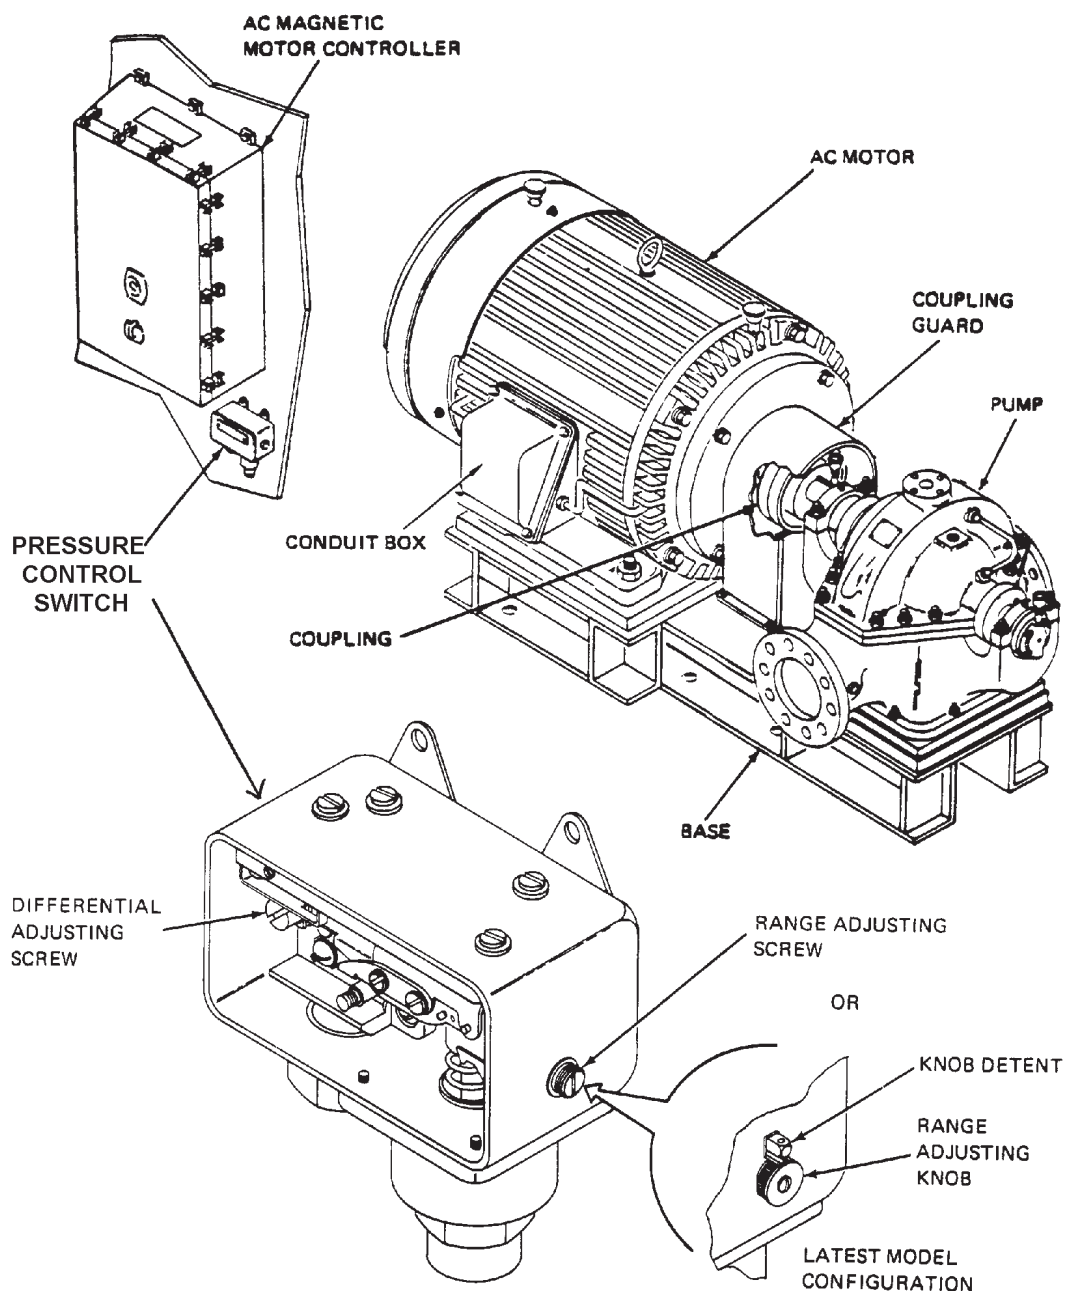

Figure 2-16.—Aurora JP-5 service pump with Pressure control switch.
The pressure limit switch or pressure control switch (see fig. 2-16) is located near the controller (inside the Console room on CVN's), controls the pump during operation by sensing pump discharge pressure. The switch closes the motor control circuit at 10 psi and opens the circuit at 180 psi. If the service pump does not maintain suction within three (3) minutes, the switch is calibrated to shut down the pump.
JP-5 Service Pump (fig. 2-16) is a double-suction, single-stage, centrifugal pump. The pump is designed to deliver fuel at 1,100 gallons per minute at 150 psi with a 20-foot suction lift. The pump consists of a split casing, wearing rings, and rotating element.